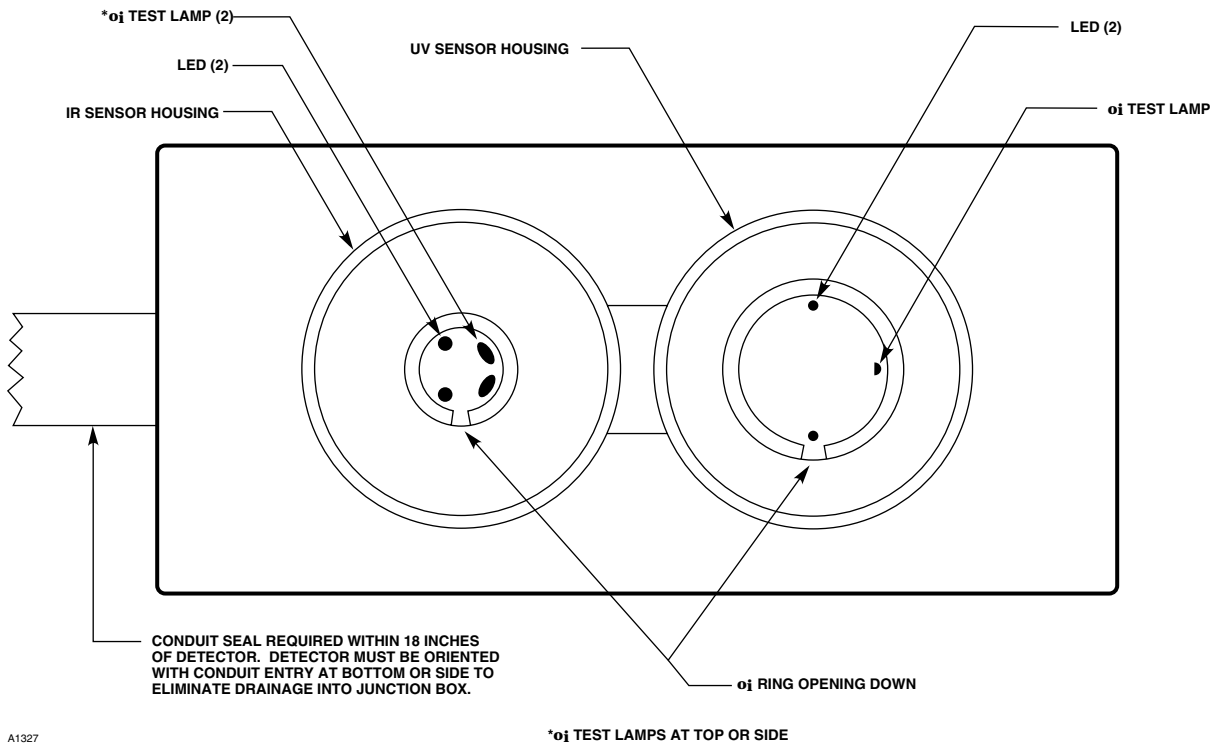
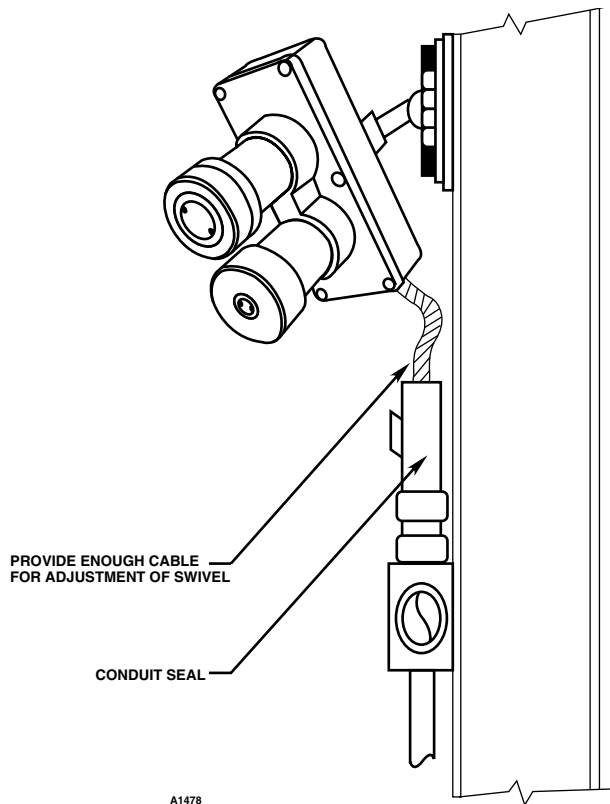

Figure 10—Front View of the C7052J Detector
Figure 11—Vertical Mountign Detector
faults. Whenever possible, slope the conduit run downward from the detector. Do not use conduit runs that enter the device from the top. See Figure 10 for identification of the detector parts of interest when mounting, and Figure 11 for an example of vertical detector mounting.
The two **o_i** lamps on the DE5500 IR sensor should be at the top or side of the detector (when viewed from the front) and the opening on the **o_i** ring should be at the bottom. See Figure 10. This will ensure proper operation of the **o_i** system and also minimize the accumulation of moisture and contaminants between the **o_i** ring and the viewing window. (The **o_i** lamps on the IR sensor are identified as oblong in shape and clear in color.)
16. The opening of the **o_i** rings should be pointed down to minimize the accumulation of moisture or contaminants behind the ring (see Figure 10). Verify that the **o_i** test lamp is at the top or side of each sensor. Note that Figure 10 shows the DE5500 IR module with the test lamps located together on one side of the edge. The DE3895 IR module has test lamps located directly opposite one another. In both cases, ensure that no test lamp is positioned at the bottom when the detector is installed.